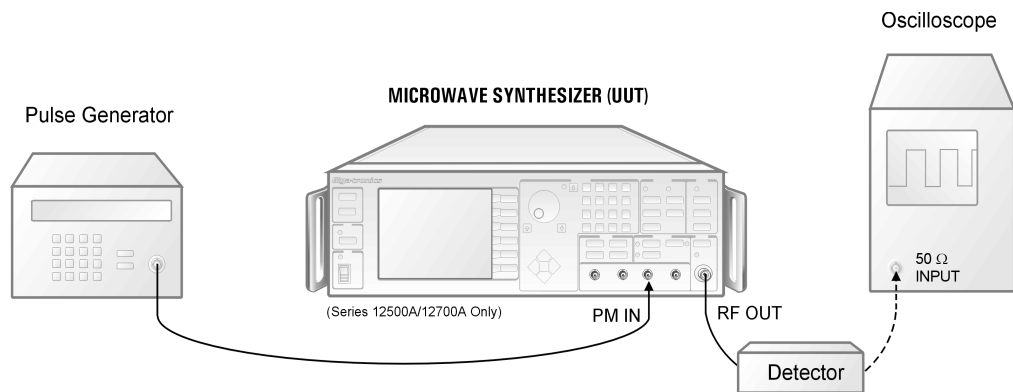

Figure 4-10: PM Overshoot and Setting Time
1. Connect the equipment as shown in Figure 4-10. The cable from the detector to the oscilloscope should be kept as short as possible.